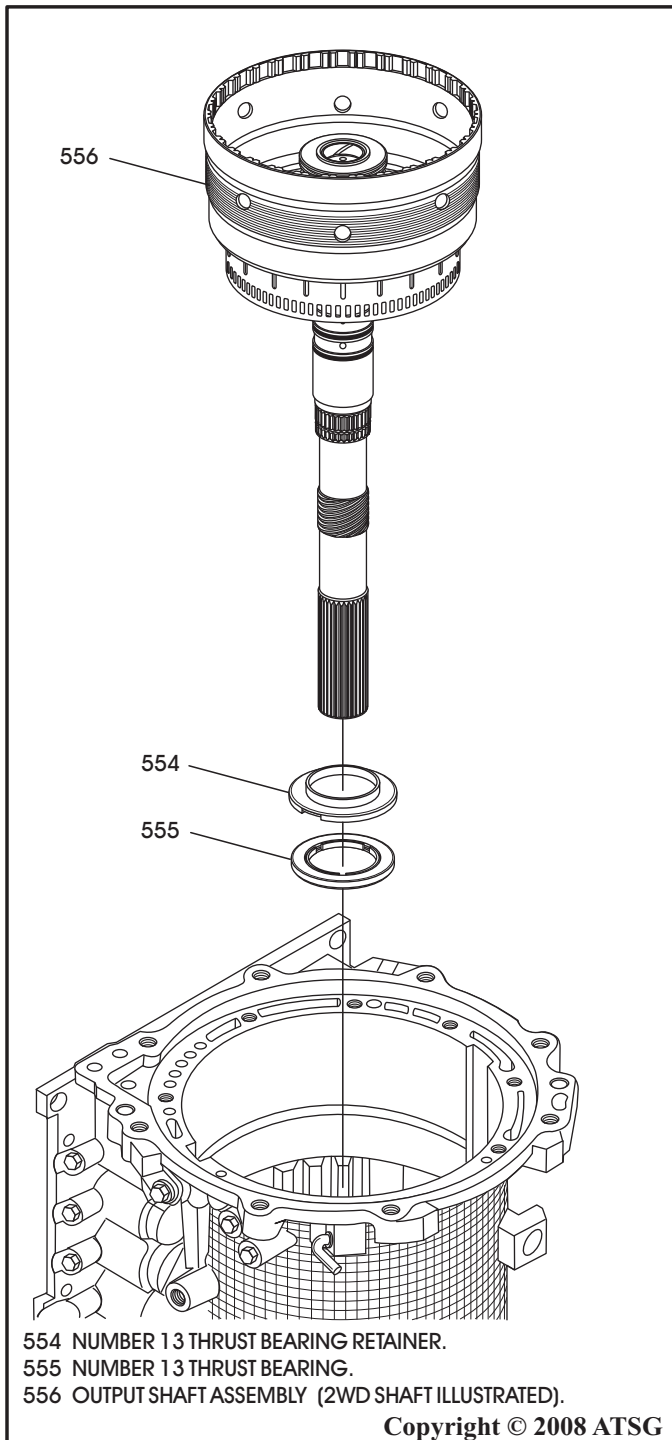

Figure 56
10. Remove output shaft from transmission case, as shown in Figure 56.
11. Remove the number 13 thrust bearing and the bearing retainer, as shown in Figure 56.